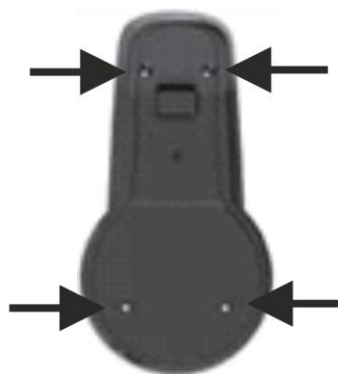

FIGURE 2
5. Installation of the wall bracket (8) - look at Figure 2